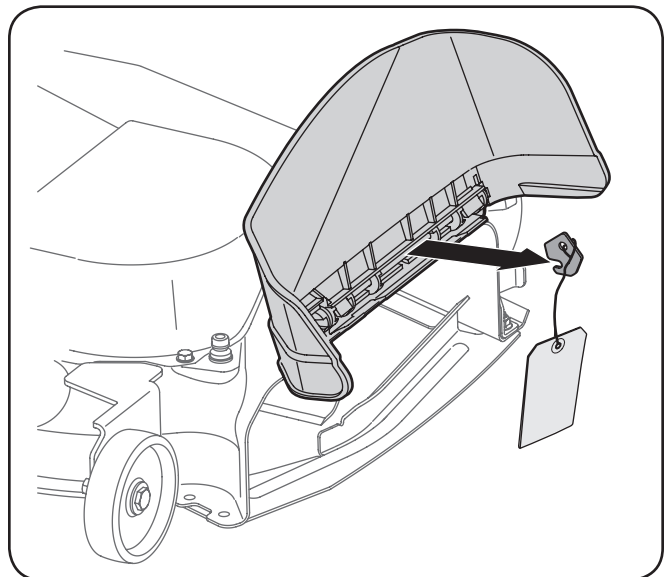

Figure 3-2
1. Locate the shipping brace, if present, and warning tag found on the right side of the cutting deck. See Figure 3-2.